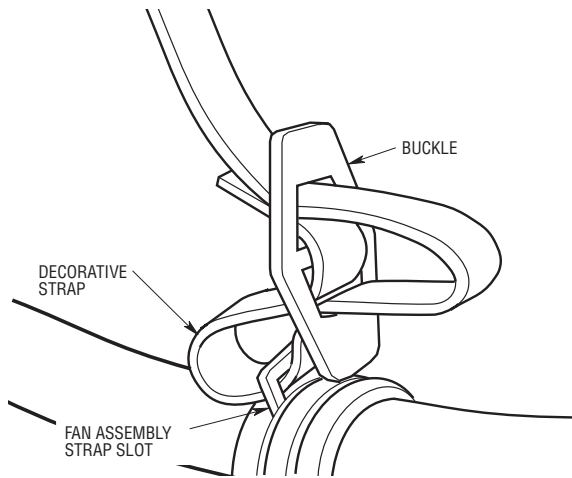

Figure 17
- 5. Assemble the buckle onto the decorative strap (Figure 17).
- 6. Slide the strap back through the buckle as shown in Figure 17.
- 8. Slide the other end of the decorative strap through the fan assembly strap slot (Figure 17).